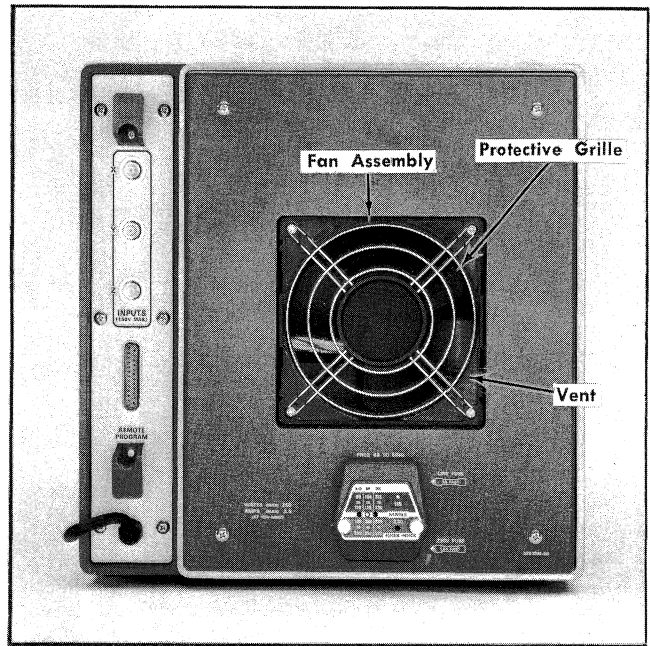

Fig. 4-5. Filter removed from the air vent.
1. Remove the air filter to expose the fan and clear the ventilation opening through which the fan will be removed (see Fig. 4-5).